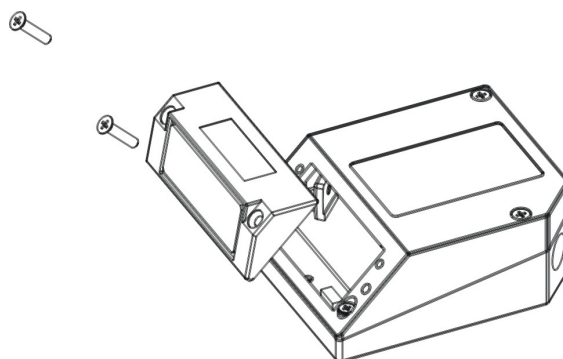

Figure 2
- 2) Remove the scanner front cover (see Figure 2).